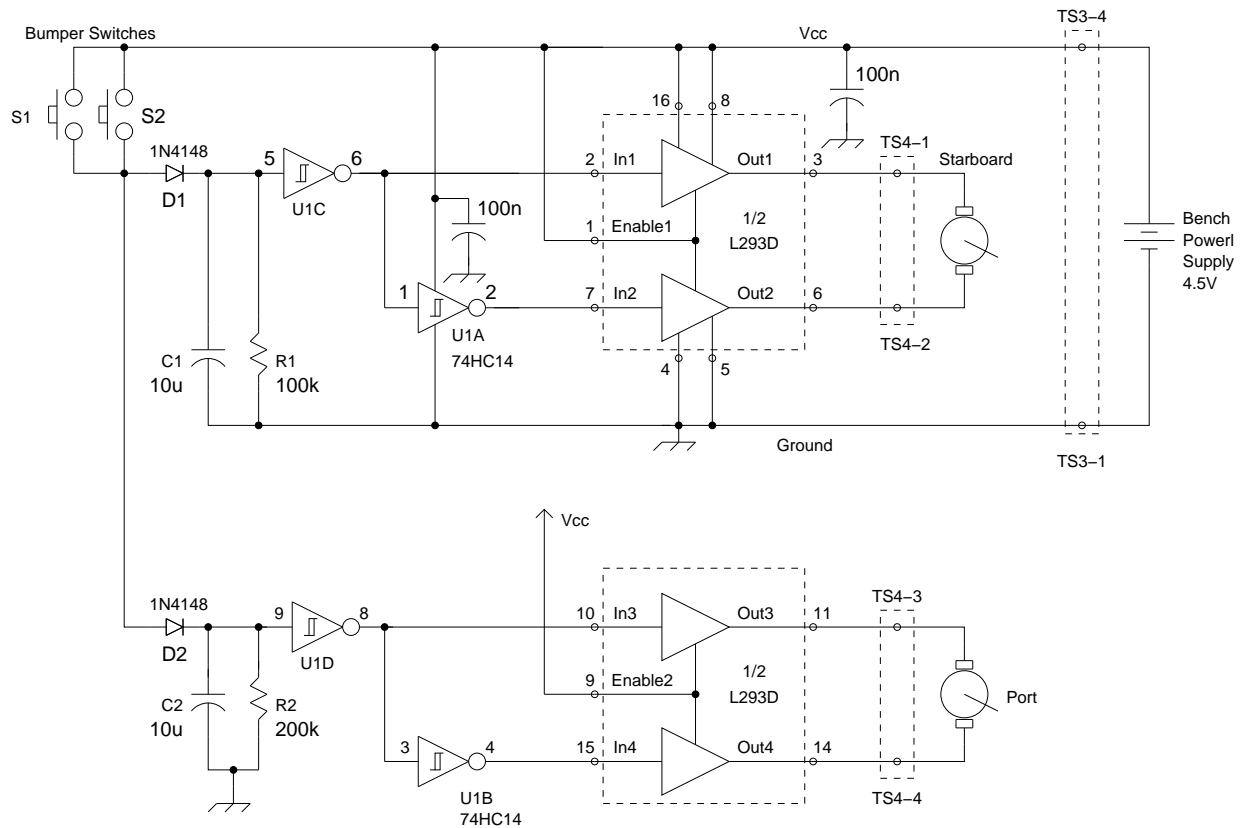

Figure 23: Bump-and-Turn Circuit
The complete bump-and-turn circuit is shown in figure 23.
3. Wire up and carefully check the circuit shown in figure 23.